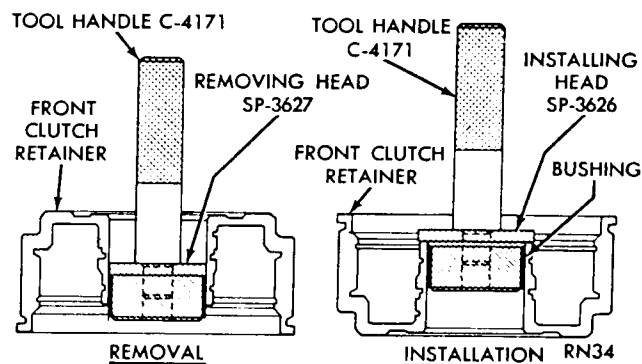

Fig. 20—Replace Front Clutch Retainer Bushing (A-904T and A-999)
(1) Lay clutch retainer (open end down) on a clean, smooth surface and place removing head Tool SP-3627 in the bushing (Fig. 20). Install handle Tool C-4171 in removing head.
(2) Drive bushing straight down and out of clutch retainer bore. Be careful not to cock tool in the bore.
(3) Lay clutch retainer (open end up) on a clean, smooth surface. Slide a new bushing on installing head Tool SP-3626, and start them in clutch retainer bore.
(4) Install handle in installing head. Drive bushing into clutch retainer until tool bottoms.
(5) Thoroughly clean clutch retainer before assembly and installation.